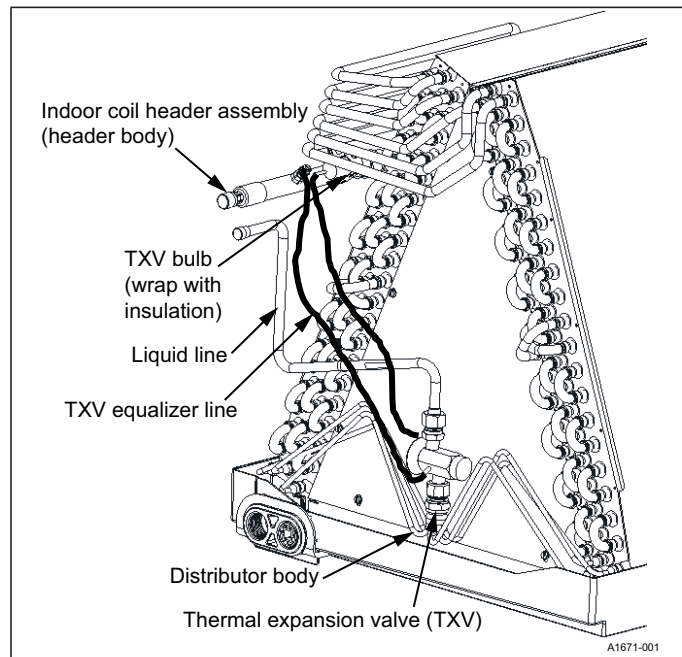
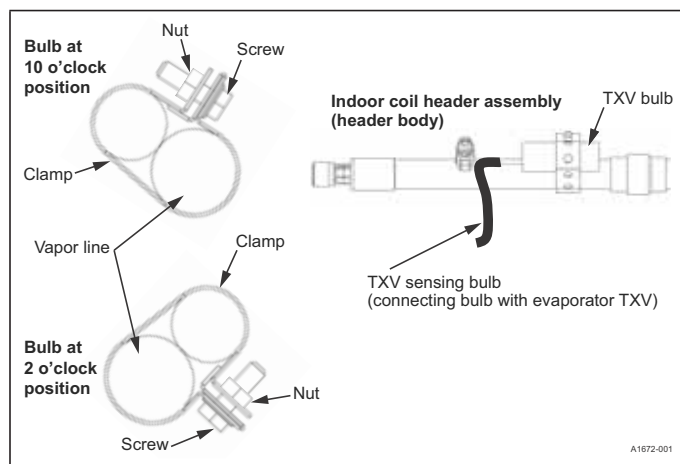

Figure 12: TXV bulb and equalizer line installations
Figure 13: Correct bulb location
5. Slide the nut removed in Step 3 over the supplied liquid line. Place the supplied PTFE washer from the TXV kit in place on the TXV and install the liquid line into the top of the thermal expansion valve. Adjust the assembly so the liquid line aligns with the hole in the access panel. See **Figure 12**. Hand tighten the liquid line and apply an additional 1/4 turn to seal.
6. Install the TXV equalizer line onto the vapor line by hand tightening the 1/4 in. SAE coupling nut to the equalizer fitting and apply an additional 1/3 turn to seal. See **Figure 12**.
8. Install the TXV bulb to the vapor line near the TXV equalizer tube connection port, using the bulb clamps supplied with the TXV assembly. Ensure the bulb makes maximum contact. See **Figure 12** and **Figure 13**, and complete the following steps: